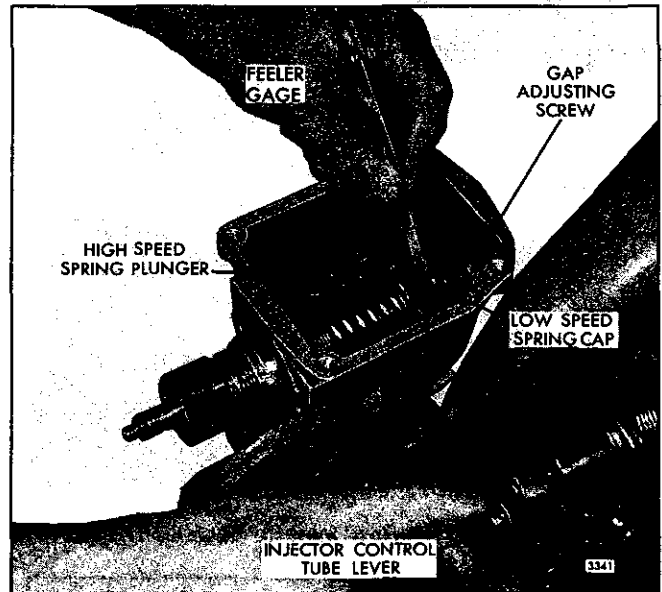

Fig. 1 - Adjusting Governor Gap
6. Check the gap between the low-speed spring cap and the high-speed spring plunger with a feeler gage (Fig. 1). The gap should be .002"-.004". If the gap setting is incorrect, reset the gap adjusting screw.